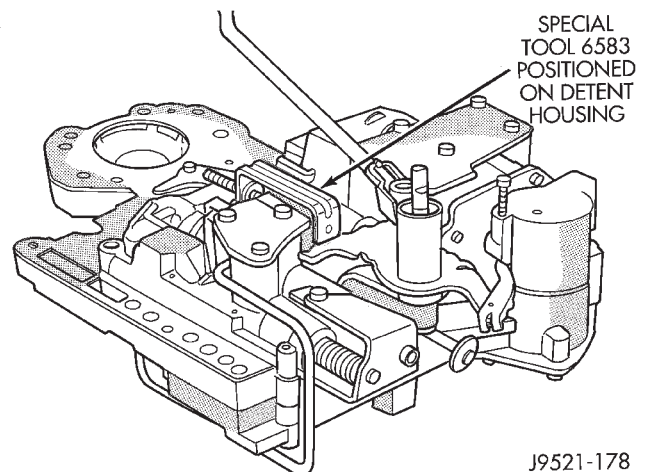

Fig. 89 Detent Ball Spring
(1) Install boost valve, valve spring, retainer and cover plate. Tighten cover plate screws to 4 N·m (35 in. lbs.) torque.
(2) Insert manual lever detent spring in upper housing.
(3) Position detent ball on end of spring. Then hold detent ball and spring in detent housing with Retainer Tool 6583 (Fig. 89).